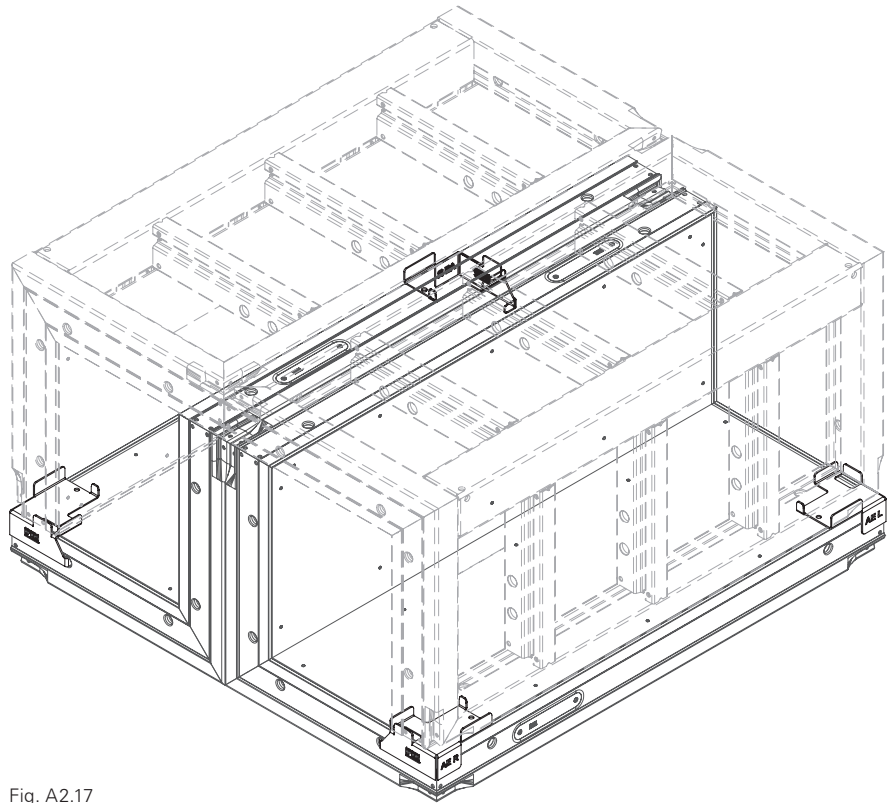

Fig. A2.17
- four outside corners. Only install Stacking Devices MXA (11 + 12) at the corners. (Fig. A2.17)